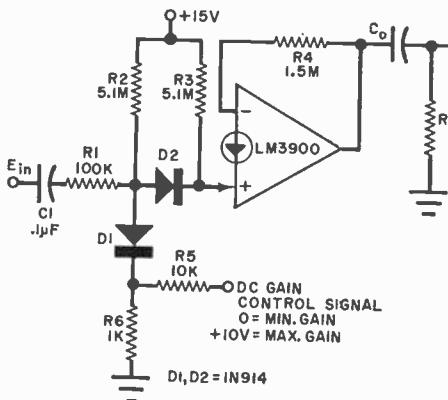

Fig. 7. CDA can be used as a gain-controlled amplifier with dc signal.
**Gain Controlled Amplifier.** Ever have a need for a circuit with a remotely or electronically adjustable gain? Figure 7 is such a circuit, National Semiconductor's recommendation for gain controlling one section of an LM3900.
Sections A2 through A4 form the oscillator, with gain being controlled by A2. This section is a gain controlled amplifier similar to Fig. 7. Stage A1 senses the output level through rectifier D3 and develops a control voltage to drive D2. Amplitude is adjustable by varying the voltage applied to R16 with output level control R18.